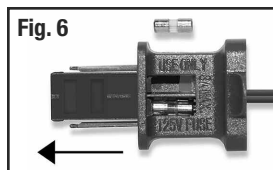

Fig. 6
- 3b. **WRAPPED TREES:** Working your way up from the bottom, gently lower all branches from their upright setting by grasping the branch and pulling it downward (Figure 6). Each branch must be shaped to a natural position by spreading out the left and right tips away from the center tip (See **Shaping Instructions** on page 4). Continue to lower branches on upper section(s) in the same manner.
(Figure 6) PowerConnect trees do not require the connection of light strings between sections. Electrical connections are made when each section is assembled.
2. Fuses are located in light string plug. Slide the fuse access cover away from cord side (in direction of arrow, Figure 6) exposing fuses.